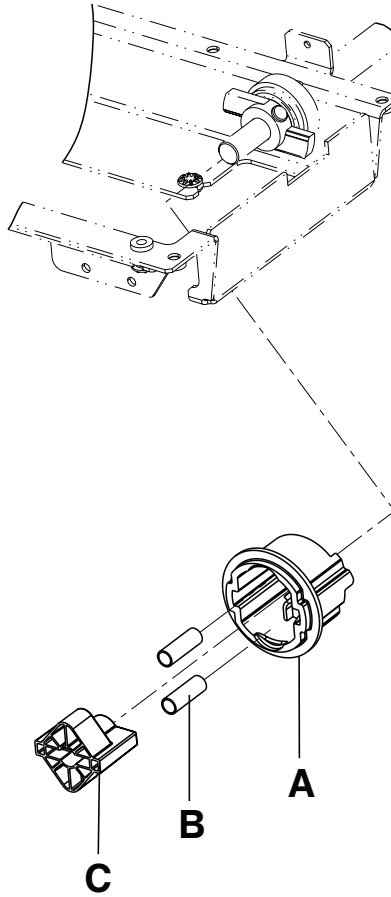

Figure 17 – Isolator, springs, and decoupler location
2. Pull the drive isolator (C), springs (B), and CPR decoupler (A) off of the drive screw. Remove all parts from the litter (Figure 17).
3. To reinstall, put the decoupler (A) on the shaft.
4. Using needle nose pliers, bend the end of the springs (B) out to help hold the springs in the isolator. Put the springs in the isolator and install the isolator on the shaft.